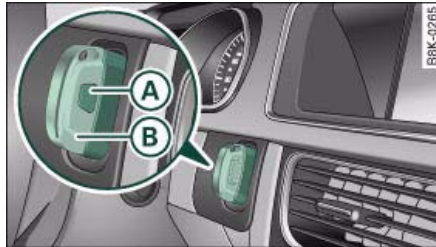

Fig. 32 Ignition lock with key
- Press the release catch (A) ⇒ fig. 32 using a ball-point pen or a similar object and pull the emergency key (B) out of the remote control key.